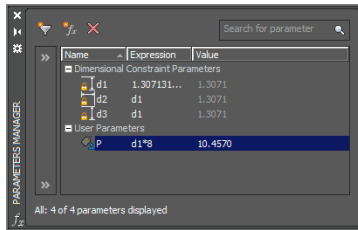

FIGURE 12.8 Adding a user parameter in the Parameters Manager
- Type **P** (for Perimeter) as the user parameter name and press Enter. Double-click the Expression value, type $d1*8$ ($d1$ times 8), and press Enter (see Figure 12.8). The perimeter of the square is equal to eight times the length of half of one of its sides. Close the Parameters Manager.